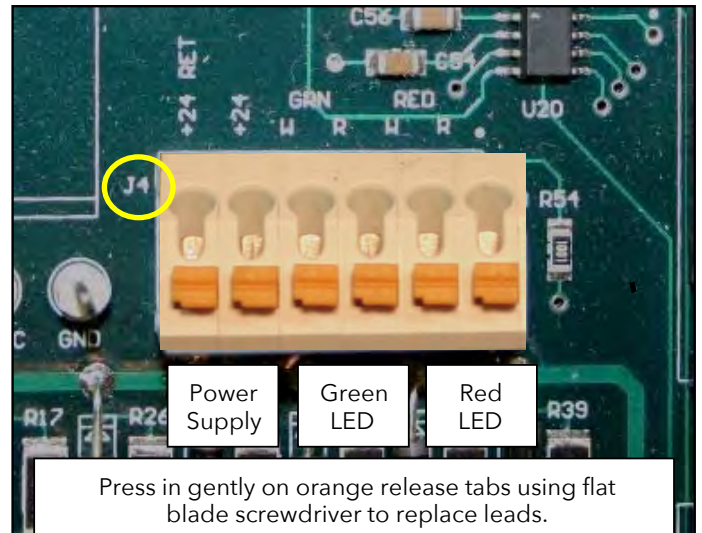

Figure 2. TERMINAL BLOCK J4.
7. Disconnect the two AC power supply module leads (black and red) from the left side of circuit board terminal block J4. Refer to Figure 2 below. Press in on the orange release tabs under each lead, then carefully remove the leads from terminal block J4.
8. Disconnect the two pairs of white and red LED leads (4 total) from the four terminals on the right side of terminal block J4. Refer to Figure 2.